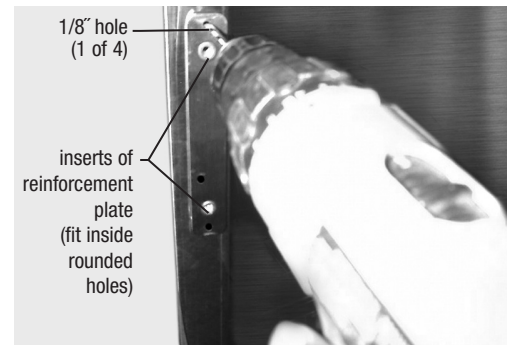

figure 4
- The inserts should fit inside the 3/8"-diameter holes as shown in *figure 4*.
- Using the reinforcement plate as a template, drill (4) 1/8"-diameter holes.
- Install 1/8" rivets into the (4) holes.